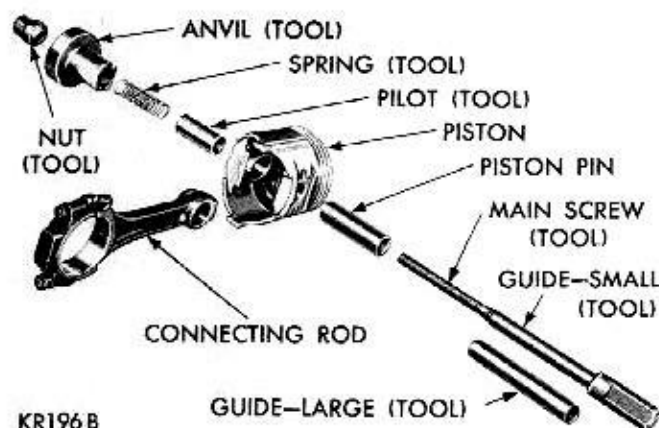

Fig. 40—Tool Arrangement for Installing Piston Pin and pilot in the anvil. Install piston pin over main screw.
(1) Test piston pin fit in the piston. It should be a sliding fit in the piston at 70 degrees F. Piston pins are supplied in standard sizes only.
(2) Lubricate piston pin holes in the piston and connecting rod.
(3) Arrange Tool C-3684 parts for installation of piston pin (Fig. 40).
(4) Install spring inside the pilot and install spring
(7) Install main screw and piston pin in piston, (Fig. 40).